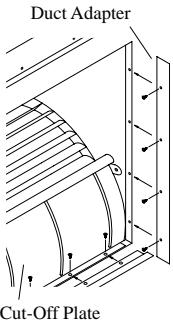

Fig. 1
- Install Duct Adapters.** If desired, a 4 piece duct adapter is available as an optional accessory. Call 1-800-643-8341 to obtain these from the factory. Align the holes in the duct adapter to the holes in the blower opening and attach using the provided screws (see Fig. 1). Repeat for all four sides. Note: All 4 pieces are identical except for models 5000SD & N55/65S which have an offset piece which attaches to the bottom of the outlet. To install this offset piece, remove the screws holding the cut-off plate and slide the offset duct adapter between the blower opening and the cut-off plate. You may need to loosen other screws to do this. Line up the holes and secure with the screws previously removed.